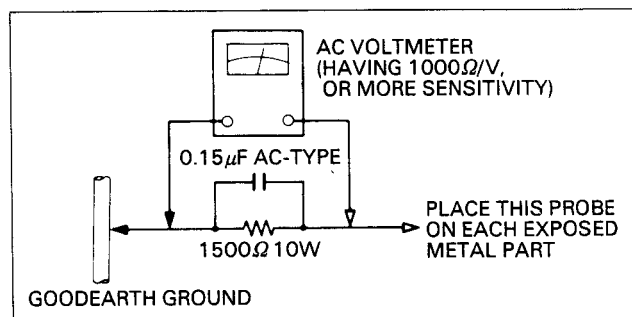

Fig. 1
1. Remove screws ① and ② on the upper part of front panel shown in Fig. 1.